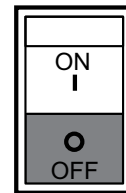

Figure 40. Circuit Breaker OFF (GFCI Test)
6. Also verify that the main circuit breaker (Figure 40) switch trips to the **OFF** position.